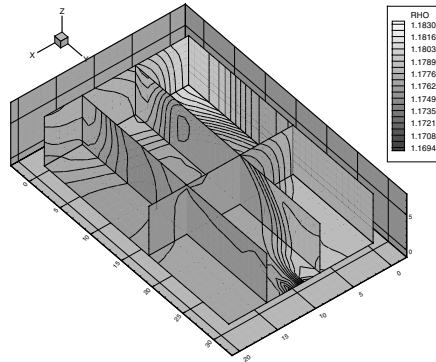

Figure 20-14. A fence plot.
A fence plot is a plot of planes of a 3-D data field. These planes may be IJ-ordered zones, or combinations of I-, J-, and K-planes of an IJK-ordered zone. In particular, the “bottom” plane of the plot is plotted, plus a few planes that are perpendicular to this plane. These perpendicular planes are the “fences.” Typically, flooded contours are plotted on each plane. An example fence plot is shown in Figure 20-14.
6. For each of I, J, and K, set the index range as appropriate. In Figure 20-14, the ranges chosen were as follows:
9. Redraw your plot. You should see a fence plot similar to that in Figure 20-14.